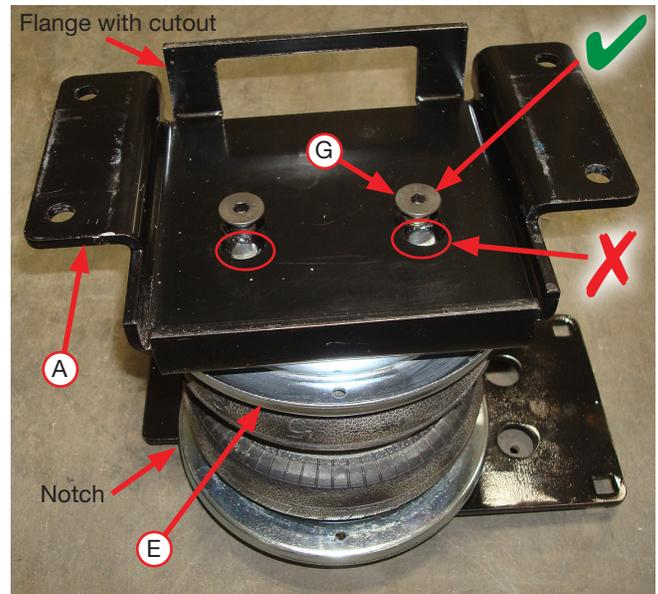

Fig. 15
2. Flip the assemblies upside down and set a roll plate (E) over both air spring assemblies. Set the lower brackets (A) onto the air spring assemblies so the flange on the bracket is on the opposite side of the notch and fittings that are on the top (Fig. 15). Attach the lower brackets, making sure to use the holes closest (marked "A") to the flange with the cutout, using the 3/8" flat head screws (G). Torque the screws to no more than 20 lb.-ft. (27Nm).